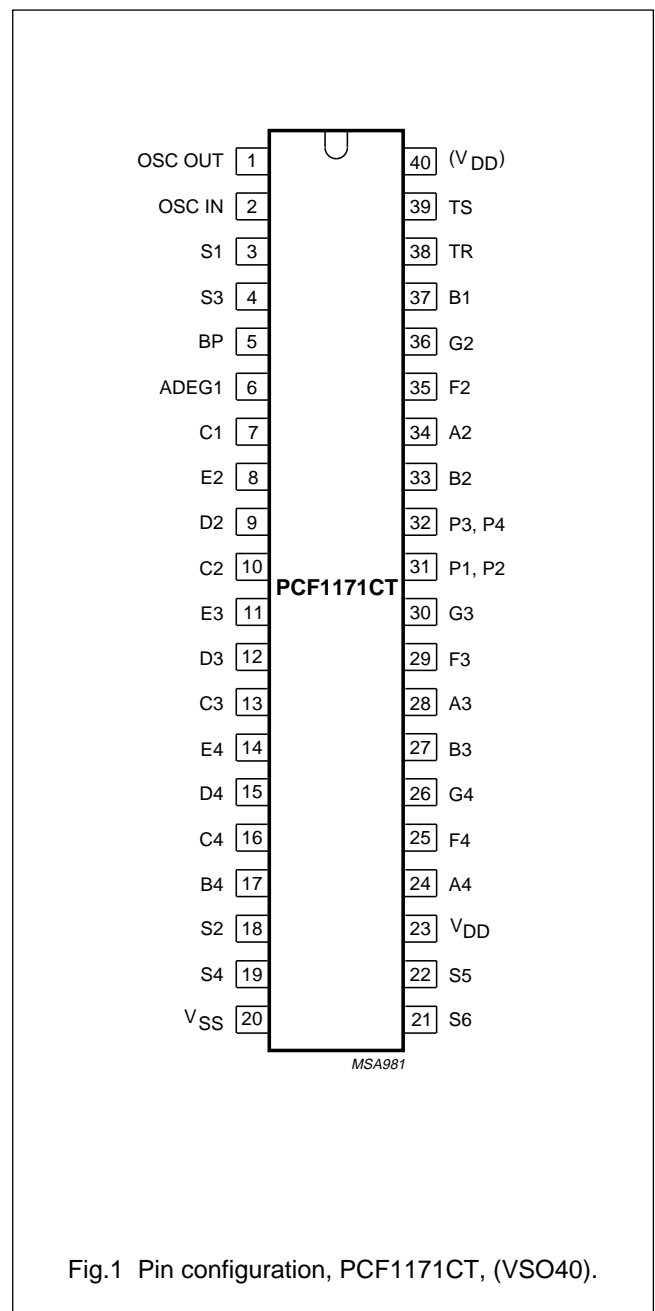

Fig.1 Pin configuration, PCF1171CT, (VSO40).
1. See Fig.1 and Chapter “Package outline” for pin layout and package details.